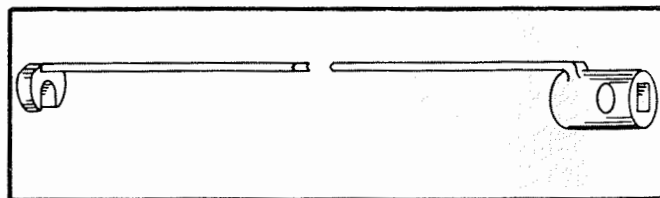

Figure 7-85. Generator Attaching Nut Wrench
- a. Remove the accessory. See paragraph 7-222 for instructions on magneto removal. Wrench 801080 (figure 7-85) may be used to remove a generator.